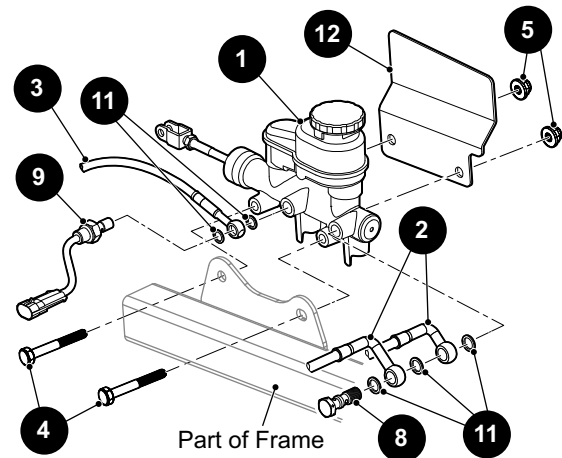

Fig. 4 Master Cylinder
WARNING **DO NOT re-use crush (11) washers (Ref. Fig. 4).**
2. Place a drain pan under the master cylinder (1) (Ref. Fig. 4).
4. Disconnect the front brake lines (2) from the master cylinder (1) by removing banjo bolt (8) and crush washers (11).